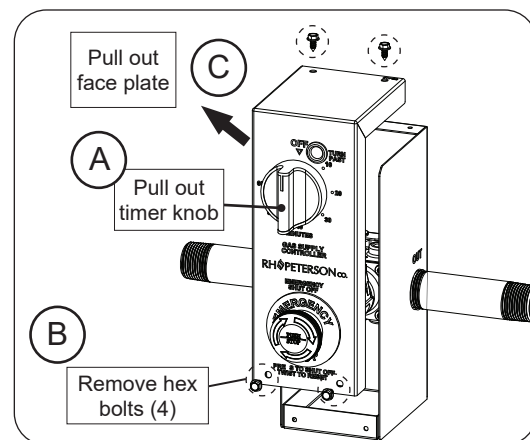

Fig. 4-1 Remove face plate
1. Unscrew the $\frac{3}{32}$ " set screw (found on left side of knob stem) then pull out the timer knob and set aside. See Fig. 4-1, A.
2. Using a $\frac{1}{4}$ " socket driver or wrench, remove the four hex bolts from the top and bottom of the control (Fig. 4-1, B).
3. Pull the face plate outward as shown in Fig. 4-1, C.